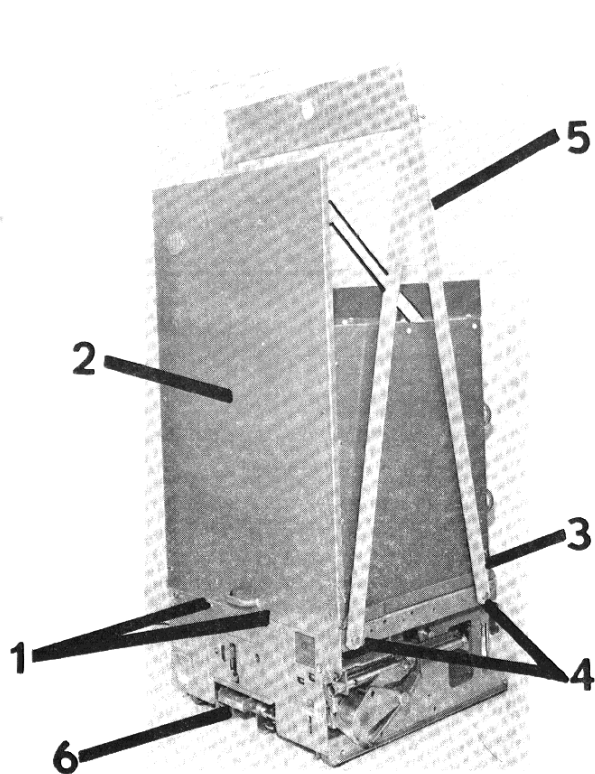

Fig. 1 — Circuit Breaker Assembly with Lifting Yoke Installed
Referring to Fig. 1, if it is necessary to raise or move the breaker, attach a lifting yoke (5) at points 4 on both sides of the truck, or a fifth wheel at point 6 to transport the breaker as required.
The interphase barrier assembly (2, Fig. 1) must be removed for access to and inspection of the vacuum interrupters, and their associated adjustments.
REMOVING INTERPHASE BARRIER (See Fig. 1)
INSTALLING INTERPHASE BARRIER (See Fig. 1)